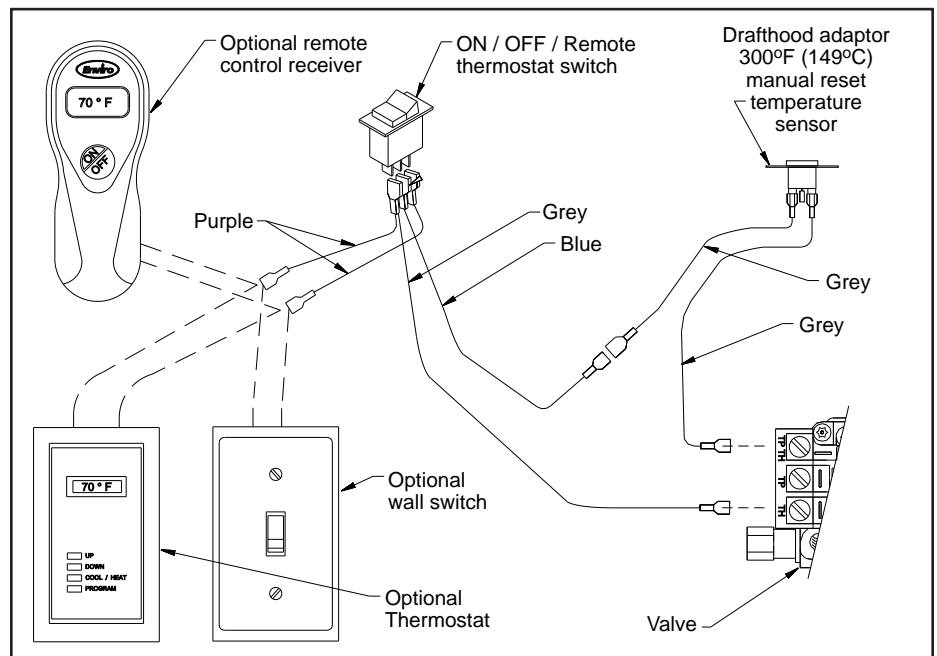

Figure 43: Wiring Diagram for Electrical Connection.
3. Being careful not to run any wiring tight across metal edges; connect them to the valve and "ON/OFF" switch (refer to Figure 43).
The fireplace connections are labelled in Figure 43. When installing the Drafhhood Adaptor onto a fireplace fitted with an optional wall switch or an optional thermostat, remove one wire
from the switch to the gas valve and connect the Drafhhood Adaptor harness as shown in Figure 43.
2. Disconnect the spill switch wires from the valve and on/off/remote rocker switch wire (see Figure 43).